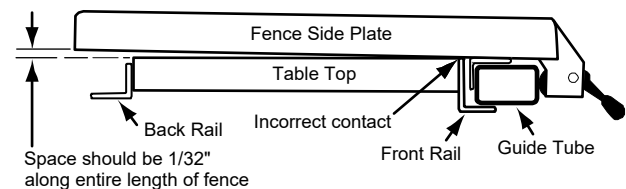

Figure 6-14
- Figure 6-14 shows a fence where misalignment of side plates has occurred; the side plates are in contact with front edge of saw table.